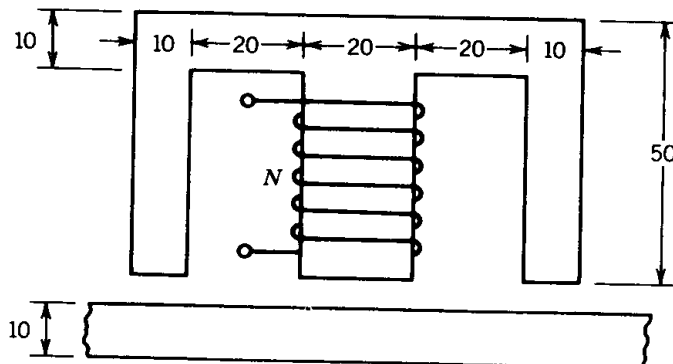

FIGURE P1.8
- 1.8 The electromagnet shown in Fig. P1.8 can be used to lift a length of steel strip. The coil has 500 turns and can carry a current of 20 amps without overheating. The magnetic material has negligible reluctance at flux densities up to 1.4 tesla. Determine the maximum air gap for which a flux density of 1.4 tesla can be established with a coil current of 20 amps. Neglect magnetic leakage and fringing of flux at the air gap.